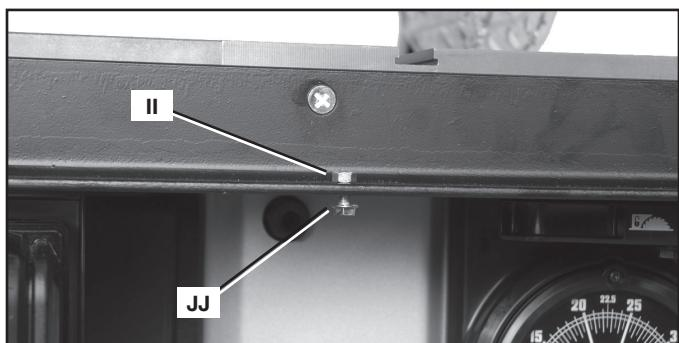
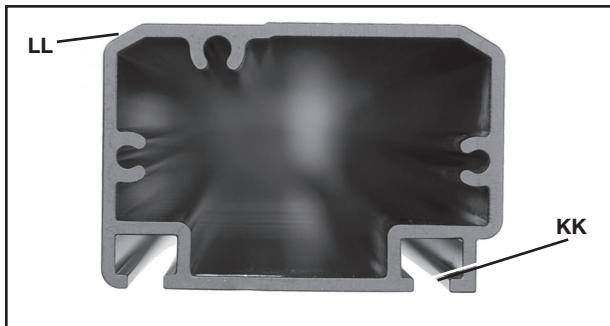

FIG. 15
FIG. 16B
1. Insert 1/4-20 x 5/8" (16 mm) hex head screw (II) down through a hole in front rail and thread on a 1/4-20 serrated flange nut (JJ) a few turns, as shown in Fig. 15.
4. Slide guide tube hole (KK) Fig. 16B onto first hex head screw at the left side (as shown in Fig. 17). Make sure ruler tape (LL) Fig. 16B or Fig. 17 is to the front of the saw before you start. Work your way down and slide guide tube around all hex head screws (II) Fig. 15 until metal edge (MM) Fig. 18 on right end of guide tube (NOT THE PLASTIC CAP) is flush with right end (NN) of extension table. Use the included template (Z) to be sure straight edge of guide is flush with wood part of table, as shown in Fig. 18
5. Fully tighten all flange nuts (JJ) Fig. 15, attaching guide tube to the rail.
NOTE: If the pointer can't be set to zero, loosen serrated nuts (JJ) Fig. 15 under the guide tube and adjust guide tube as needed. Re-tighten the nuts (JJ).